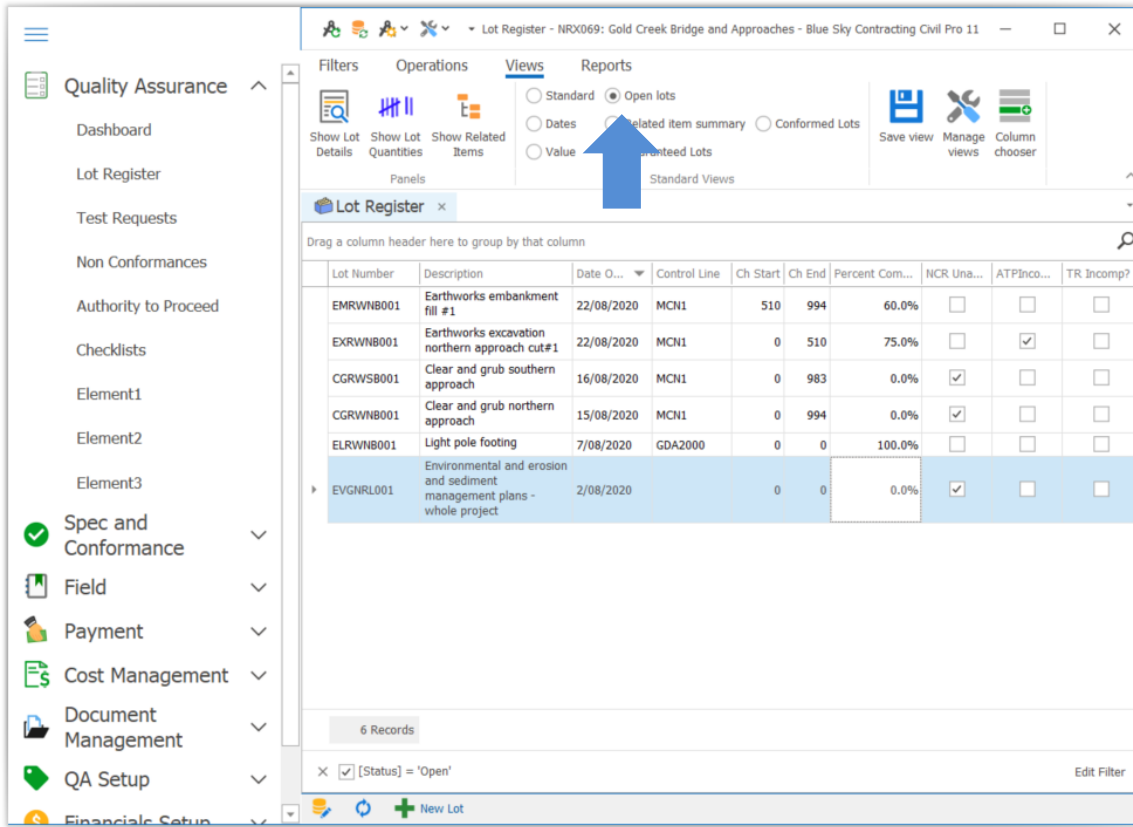

Figure 112 The Open Lots view showing the Lot level % complete
3. (fastest) From within Views in the ribbon menu select *Open Lots* (Figure 112). This shows only open lots and automatically adds the column per step 2. Enter the % complete directly.